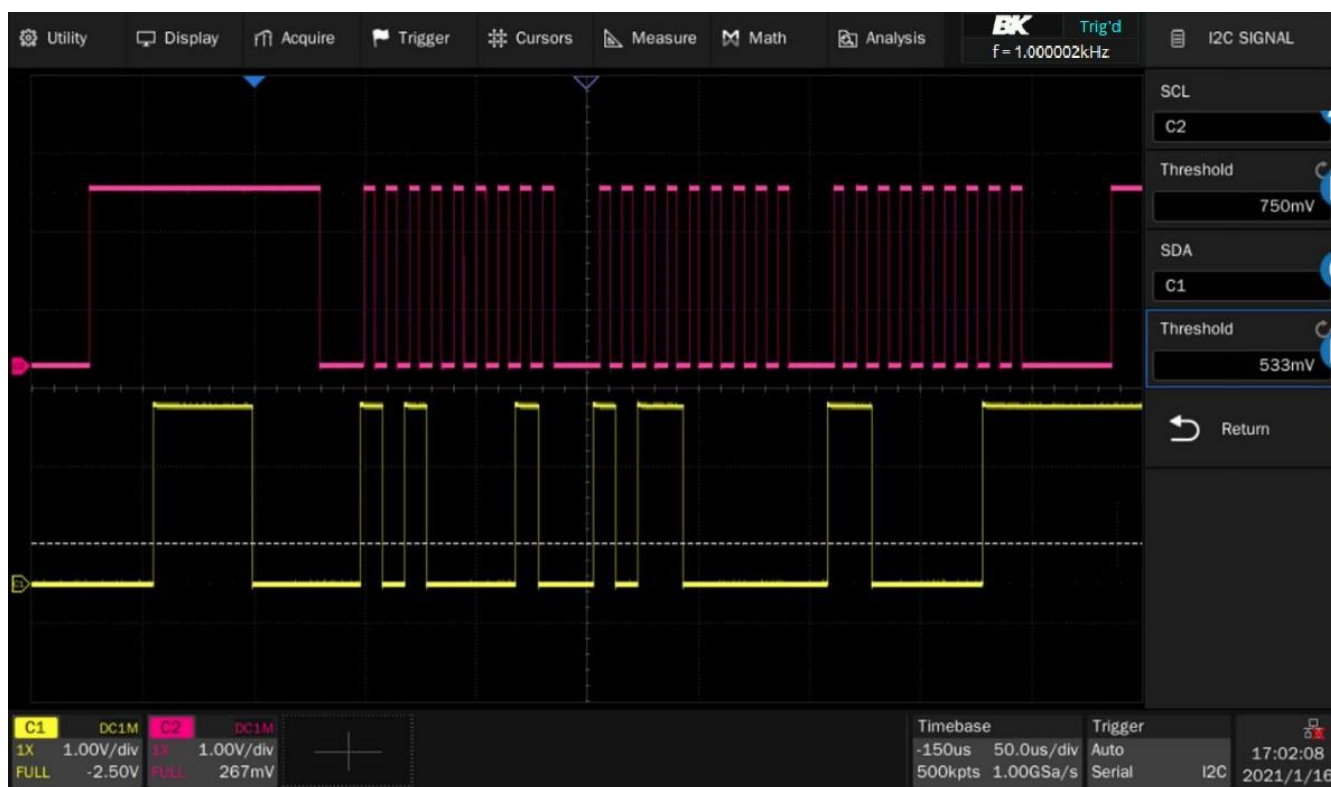

Figure 10.2 I2C Signal Menu
- The **I2C Signal** menu shown in figure 10.2 will be displayed.
4. Set the source of SCL. In the example shown in figure 10.2, SCL is connected to C2.